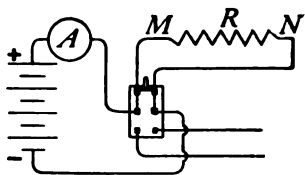

FIG. 268.
in charging can be obtained upon *discharging*. Therefore the *efficiency* of a good storage cell is about 75 per cent. Fig. 268 represents a storage battery connected to charg-
**290. Energy and Power of a Storage Cell.**—In a storage cell, the electrical energy of the charging current is transformed into *chemical* energy by the action of electrolysis. It is this chemical energy that is transformed into the energy of the electric current when the cell is discharged. The *capacity* of storage cells is rated in "ampere hours," a 40 ampere hour cell being capable of producing a current of 1 ampere for 40 hours, or 5 amperes for 8 hours, etc. The production and extensive use of electric currents have made necessary accurate methods for measuring the *energy* and *power* of these currents. To illustrate how this is accomplished, let us imagine an electric circuit as represented in Fig. 268. Here four storage cells in series have an E.M.F. of 8 volts and in accordance with Ohm's law produce a current of 2 amperes through a resistance in the circuit of 4 ohms. Now the work done or energy expended by the current in passing through the resistance between the points *M* and *N* depends upon three factors (1) the E.M.F. or *potential difference*; (2) the *current intensity* and (3) the *time*. The energy is measured by their product. That is, *electrical energy* = *potential difference*  $\times$  *current intensity*  $\times$  *time*. This represents the electrical energy in *joules*, or
In the circuit represented in Fig. 268 the energy expended between the points *M* and *N* in 1 minute (60 seconds) is  $8 \times 2 \times 60 = 960$  joules.